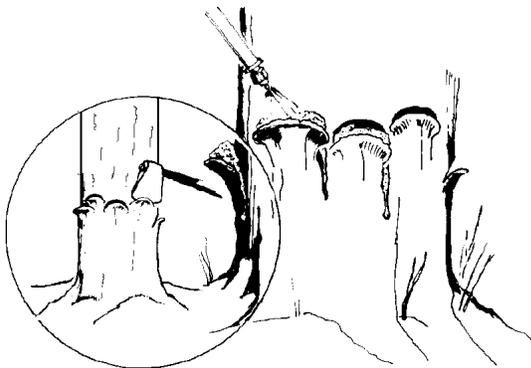

Figure 18.—Frill treatment.
- **Frill or hatchet** methods involve cutting the bark with downward ax cuts around the base of a tree (Figure 18). Spray or squirt the herbicide into the cambium area (growing wood area inside bark) immediately after making the cuts.